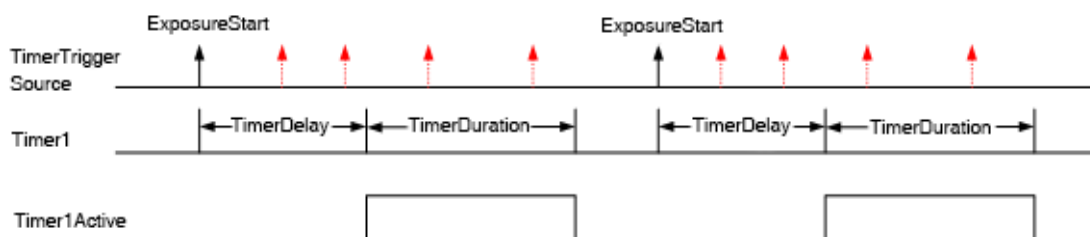

Figure 8-65 The relationship between Timer1Active and the ExposureStart signal
- From the start of the timer to the full output of Timer1Active, this process will not be interrupted by the *ExposureStart* signal, and Timer1Active must be completely output to start timing according to the next *ExposureStart* signal. As shown in Figure 8-65, the red *ExposureStart* signals are ignored.